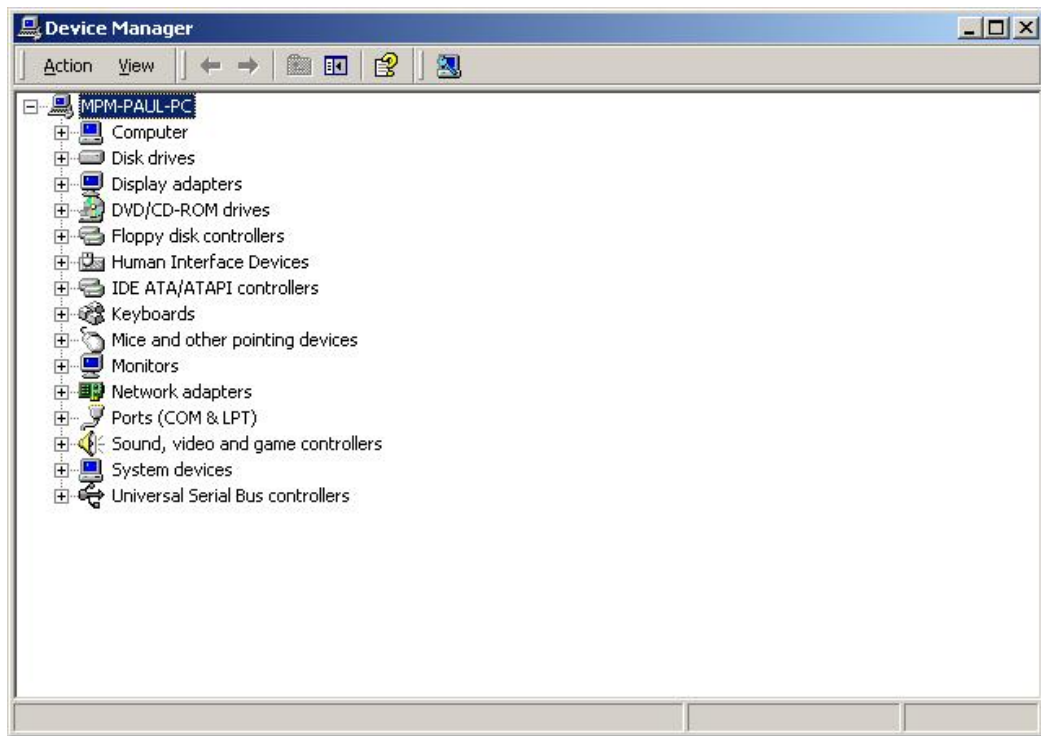

Figure 7-39: Device Manager List
Step 4: A list of system hardware devices appears (Figure 7-39).